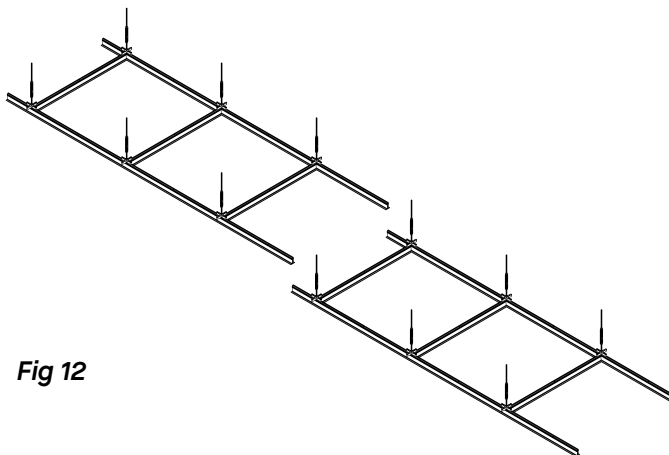

Fig 12
3.6 Suspend the other modules in the same row, adjusting the height and level of each module as you proceed (**Fig 12**). At locations where the main beam ends butt together, install the main beam splice using the provided 1/4"-20 screws. Screws must be fully seated, but not over-torqued (maximum 100 in-lb), to avoid damage to the threaded channel.